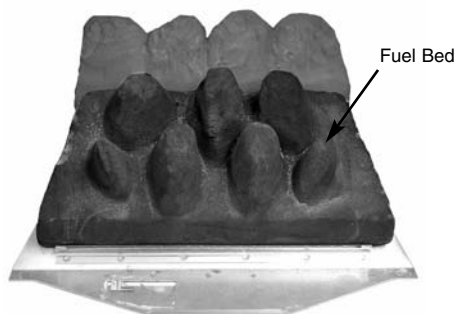

Fig. 40
2. Place the main fuel bed on to the middle section of the metal burner tray. It is important that the front edge of the fuel bed is located behind the burner strip (Fig. 40).